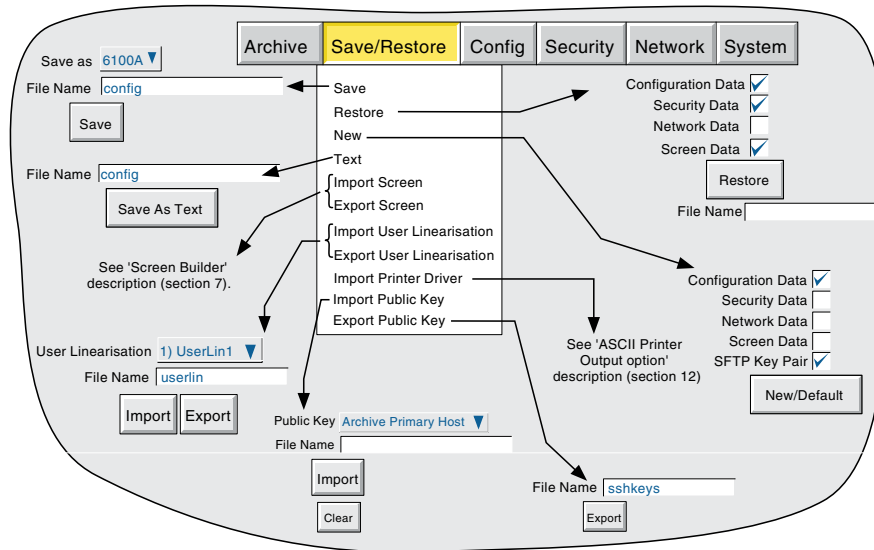

Figure 4.2a Save/Restore menu
As shown in figure 4.2a, touching the 'Save/Restore' key calls the picklist: Save, Restore, New, Text, Import/Export Screen, Import/Export User Linearisation, Import Printer Driver. Import/Export Screen choices appear only if the User screens option is fitted.
1. Select Save/Restore > New, the Save/Restore menu displays, see Figure 4.2a Save/Restore menu on page 55.
2. Click the *Save/Restore* key, then select *Import Public Key* from the drop down menu. (For further information on the menu see Figure 4.2a Save/Restore menu on page 55).